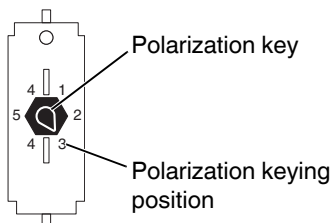

Figure 12 Plug positions
2. Locate the polarization key on the back of the new plug (see Figure 12). Check that the keying position on the new plug is the same as that of the old plug. If the keying position is different, the voltage rating of the new plug is incorrect. Double check the voltage rating and, if necessary, obtain the correct VAL-MS... plug.